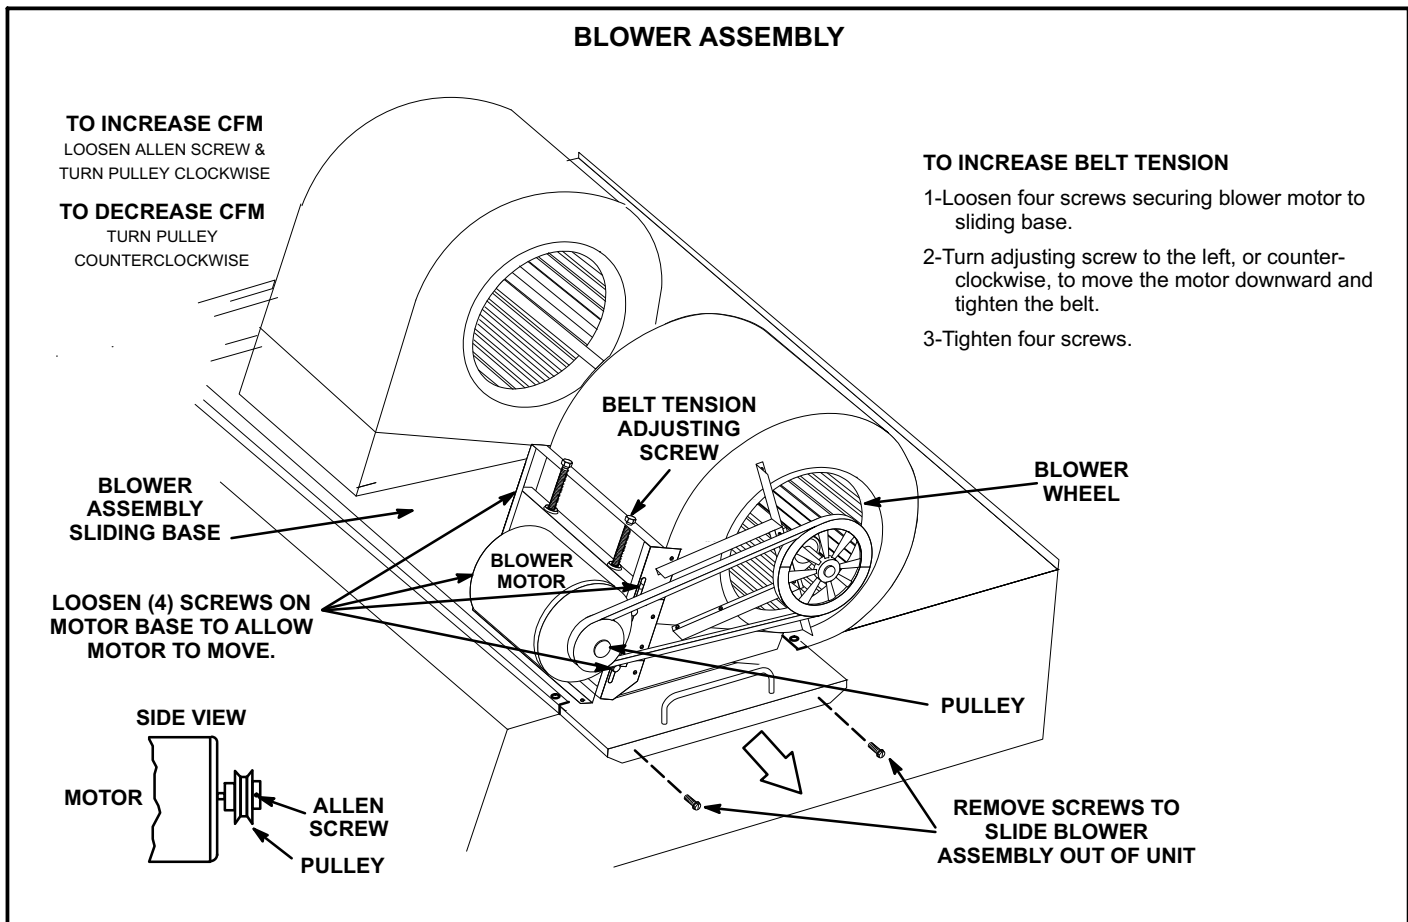

FIGURE 10
The blower compartment in KGA156H-300 units is located between the evaporator coil and the compressor / control section on the opposite side of the condenser coil. The blower assembly is accessed by removing the screws on either side of the sliding base. The base pulls out as shown in figure 10.
The blower assembly is secured to a sliding base which allows the entire assembly to be pulled out of the unit. See figure 10.
- 5- The RPM can be adjusted at the motor pulley. Loosen Allen screw and turn adjustable pulley clockwise to increase RPM. Turn counterclockwise to decrease RPM. See figure 10.
- 1- Loosen four bolts securing motor base to mounting frame. See figure 10.